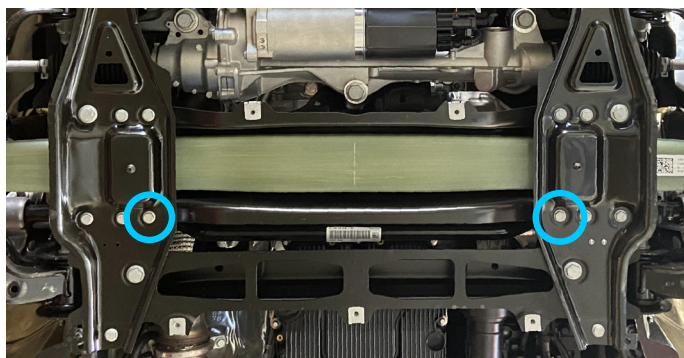

Fig. 5
5. Unscrew OEM bolts, as shown in fig.5.